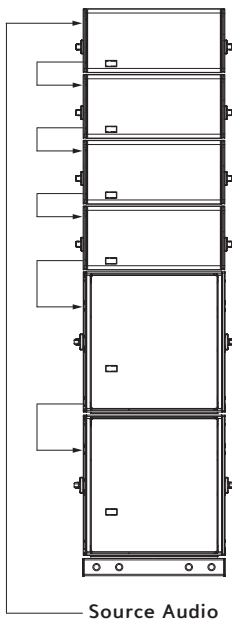

Figure 3: Mixed Groundstack
- Mixed groundstacks of LEOPARDS and 900-LFCs (Figure 3)